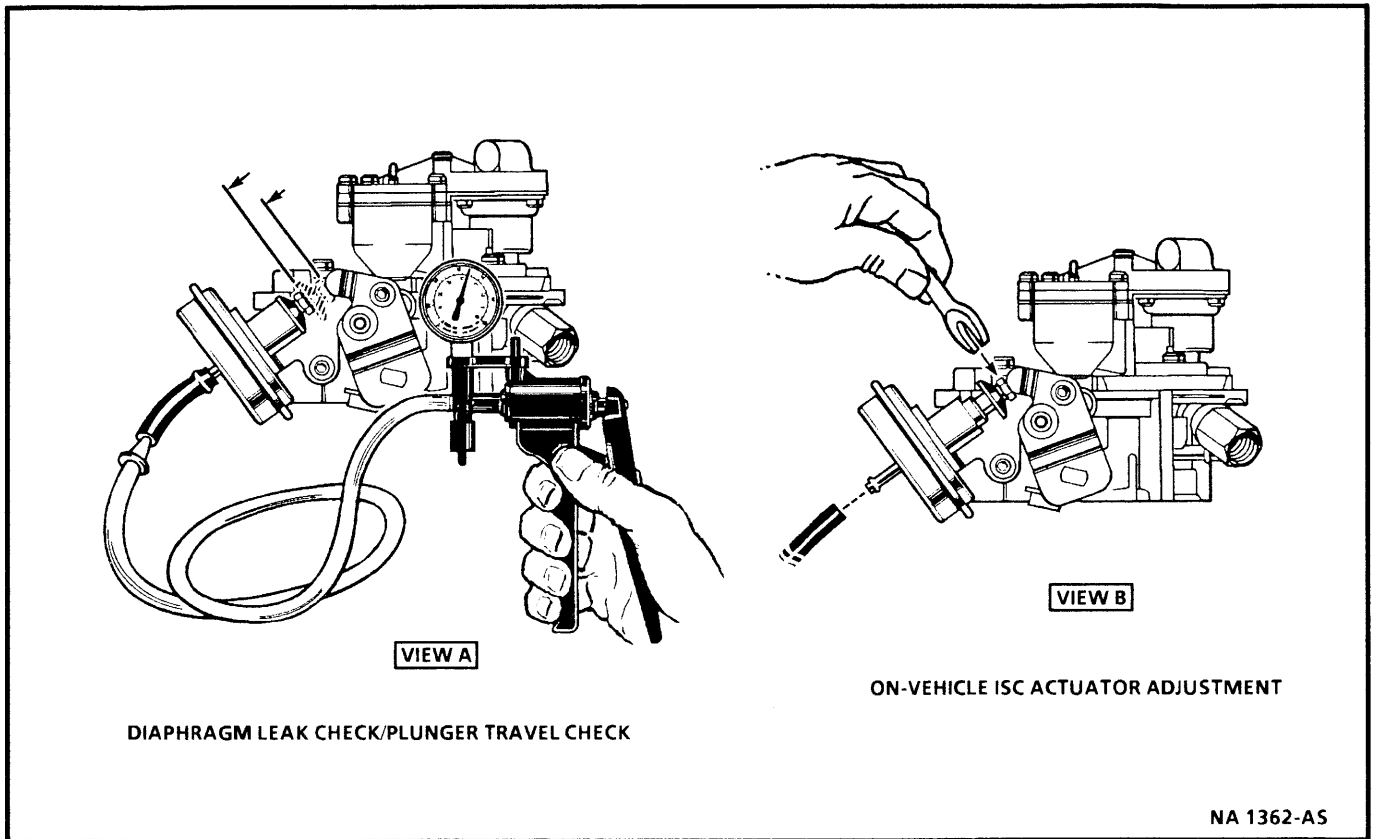

Figure 4A-19 - ISC Actuator Adjustment (7.4L Only)
- Before adjusting ISC actuator you must first check minimum idle speed to be within specifications in SECTION 4. (ISC actuator must have vacuum applied so that it is not contacting throttle lever.) See Figure 4A-19 view "A".
- Adjust ISC actuated idle speed to  $1300 \pm 50$ . (Refer to Figure 4A-19 view "B".)